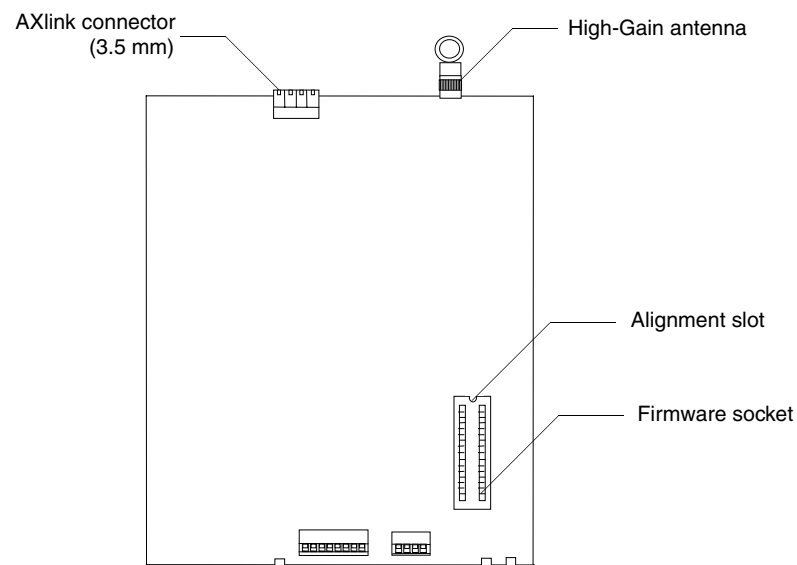

FIG. 8 AXR-NWS circuit board and IC socket location
1. Disconnect the AXlink connector (FIG. 8) from the rear of the AXR-NWS.